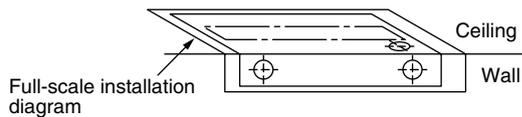

Fig. 3-37
- (1) Place the full-scale diagram (supplied) on the ceiling at the location where you want to install the indoor unit. Use a pencil to mark the drill holes. (Fig. 3-37).